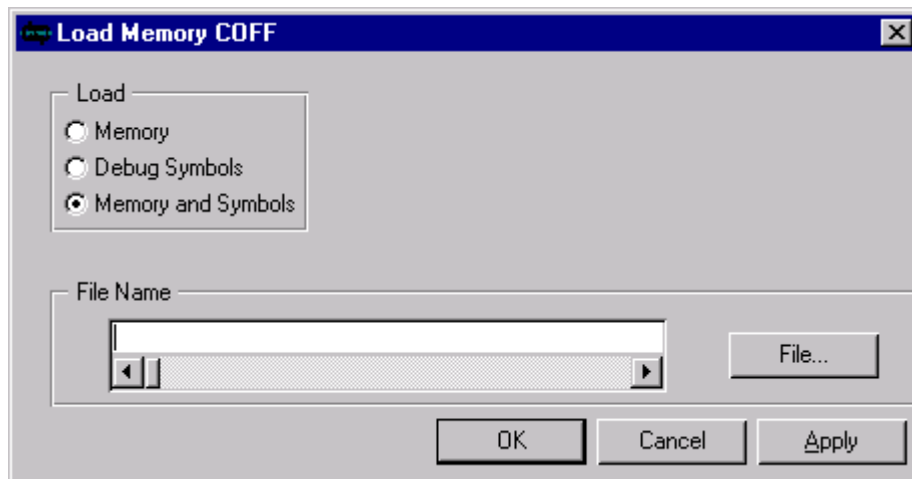

Figure 2-2. Loading a COFF (.cld) File
1. From the **File** menu, choose **Load**, then select **Memory COFF**. The dialog box in Figure 2-2 appears: